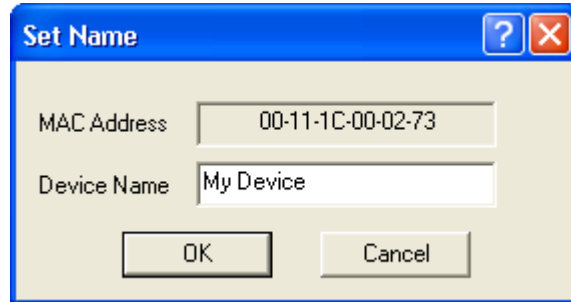

Figure 9: GigE camera Name Set-Up Dialog
- **Set Name Dialog**: This dialog, shown in Figure 9, is used to assign a name to a GigE camera. Names are stored in a database in the host PC. When finding and selecting a GigE camera, the camera name is used instead of the generic name generated when creating the GigE camera entry.